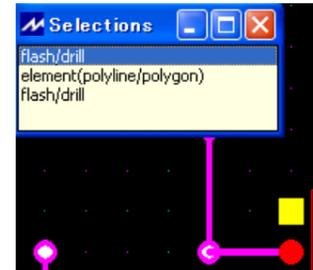

Fig. 32 Selecting second element
③ The status bar changes to “Select a second element”. Click No. 2 pin of the DIP8 component. In a popup menu shown in Fig. 32, select “flash/drill”.